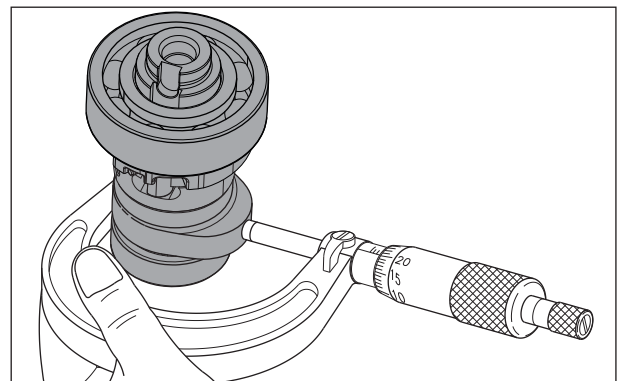

Fig. 3.62
- Measure the cam lobe height. If the lobe height is less than the service limit, replace the camshaft complete with a new one. (Fig. 3.62)